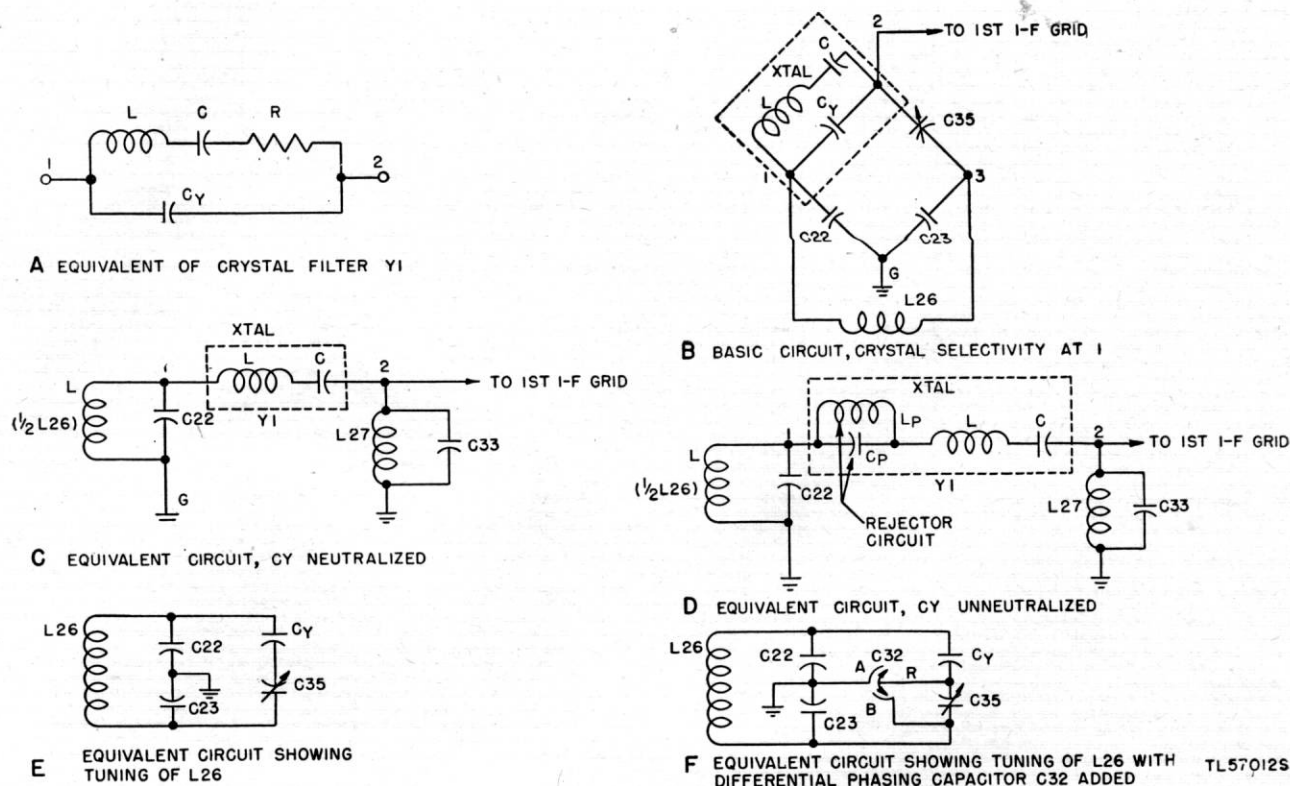

Figure 28. Radio Receiver BC-779-B, functional and equivalent diagrams of crystal filter circuit.
(4) Refer to appendix III for circuit details of Improvement Kit MC-531.
61. Crystal Filter (fig. 28)
a. EQUIVALENT CRYSTAL CIRCUIT. The equivalent electrical circuit of a crystal is shown in "A," figure 28. The circuit, and hence the crystal, are resonant at two frequencies: The frequency at which the reactance of L is equal to the reactance of C (series resonance), and the frequency at which the effective reactance of L-C (in series) is *inductive* and *equal* to the capacitive reactance of C_Y (parallel resonance). At the series-resonant frequency the crystal acts as a low-impedance connection between 1 and 2. At the parallel-resonant frequency the crystal acts as a high impedance between 1 and 2.
b. BASIC FILTER CIRCUIT ("B," fig. 28). Capacitors C22 and C23 (100 mmF each) are connected in series across the secondary of i-f input transformer L26, and their junction is grounded to provide a midpoint connection in the resonant circuit L26-C22-C23. Consequently, the capacitor voltages are always of equal amplitude but 180° out of phase. Phasing capacitor C35 (1.5 to 5 mmF) is connected between 3 and 2, and the crystal is connected between 1 and 2.
c. NEUTRALIZATION OF C_Y . Capacitors C22, C23, C35, and C_Y (the capacity between the crystal holder plates) form a capacity bridge; the input is applied to 1 and 3, the output is taken from 2 and G. When capacitor C35 is adjusted so that its capacitance is equal to that of C_Y , the voltage coupled from 3 through C35 to 2 is equal and opposite to the voltage coupled from 1 through C_Y to 2. Under this condition C_Y is neutralized and the crystal acts as a series-resonant circuit only ("C," fig. 28). Since the crystal is resonant at the intermediate frequency, there is (in effect) a direct connection between 1 and 2. As indicated in "C," figure 28, only the voltage across C22 (one-half the secondary voltage) is applied through the crystal to the grid circuit of the first i-f stage.
tance of L - C and the capacitive reactance of C_Y . For simplicity the parallel-resonant circuit is denoted as rejector circuit $L_P C_P$ in "D," figure 28. L_P and C_P denote the effective inductance and capacitance at the parallel-resonant frequency. L and C indicate the effective inductance and capacitance of the crystal at the series-resonant frequency, in this case the 465-kc i.f. In other words, unless C_Y is neutralized, the crystal acts simultaneously as a parallel- and series-resonant circuit. The parallel-resonant circuit $L_P C_P$ has no effect on the 465-kc i.f. but presents a high impedance to, and therefore rejects, the frequency to which $L_P C_P$ is resonant. L and C present extremely low impedance to the 465-kc i-f signal voltage and high impedance to voltages at different frequencies. *With underneutralization the resonant frequency of $L_P C_P$ is higher than 465 kc.*
f. CAPACITOR C_{32} . Capacitor C_{35} , in series with capacitance C_Y , is across L_{26} and affects its tuning ("E," fig. 28). To avoid the detuning effect and to enable shifting the rejection frequency to either side of the i.f., differential PHASING capacitor C_{32} ("F," fig. 28) is used in the radio receiver. Stator sections A and B are so arranged that, as rotor R is turned out of one stator into the other, the capacitance of the first *decreases* by the same amount that the capacitance of the second *increases*. Thus, whether the rotor is entirely engaged in stator A, is at a midpoint, or is entirely in stator B, the effective capacitance across A-B, and therefore across L_{26} , remains constant. Assume that C_{32} , the PHASING capacitor, is set at the arrow position of the PHASING control on the front panel and
(2) CRYSTAL SELECTIVITY switch at 1. When CRYSTAL SELECTIVITY switch SW7 is placed at 1, the short is removed from the crystal. If the secondary of L26 and the parallel-resonant grid circuit, L27-C33, are tuned to 465 kc, each is the equivalent of a high resistance in series with the equivalent series-resonant circuit of the crystal ("C," fig. 28). Consequently, the Q and therefore the selectivity of the series-resonant (crystal) filter circuit is reduced, and the bandwidth is several kilocycles wider than that of the crystal alone.
(3) CRYSTAL SELECTIVITY at 2, 3, 4, or 5. Advancing the CRYSTAL SELECTIVITY switch